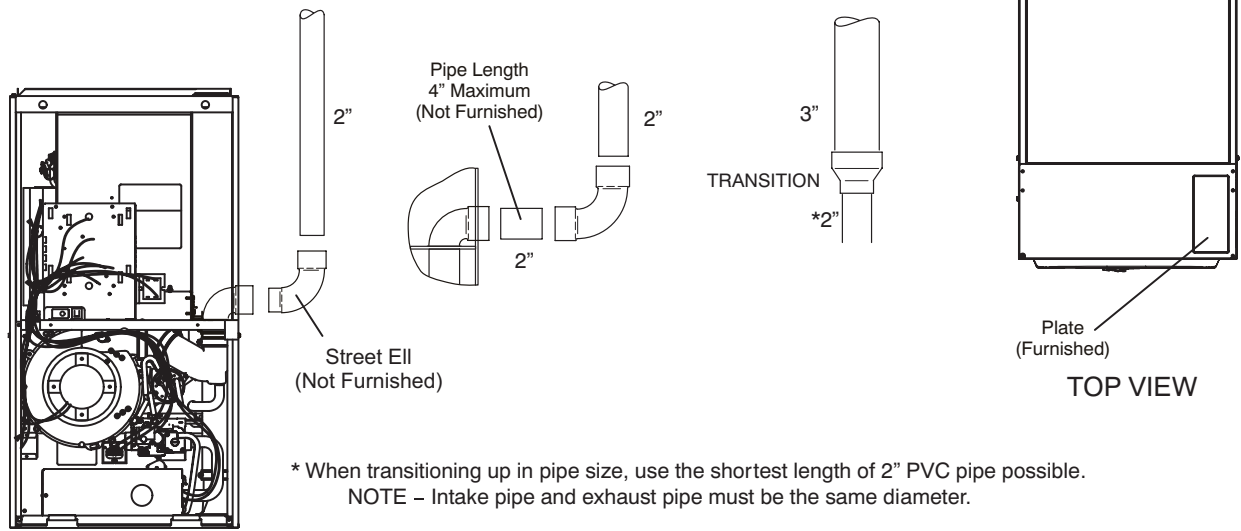

**FIGURE 24**
**Exhaust Piping (FIGURE 24 and FIGURE 25)**